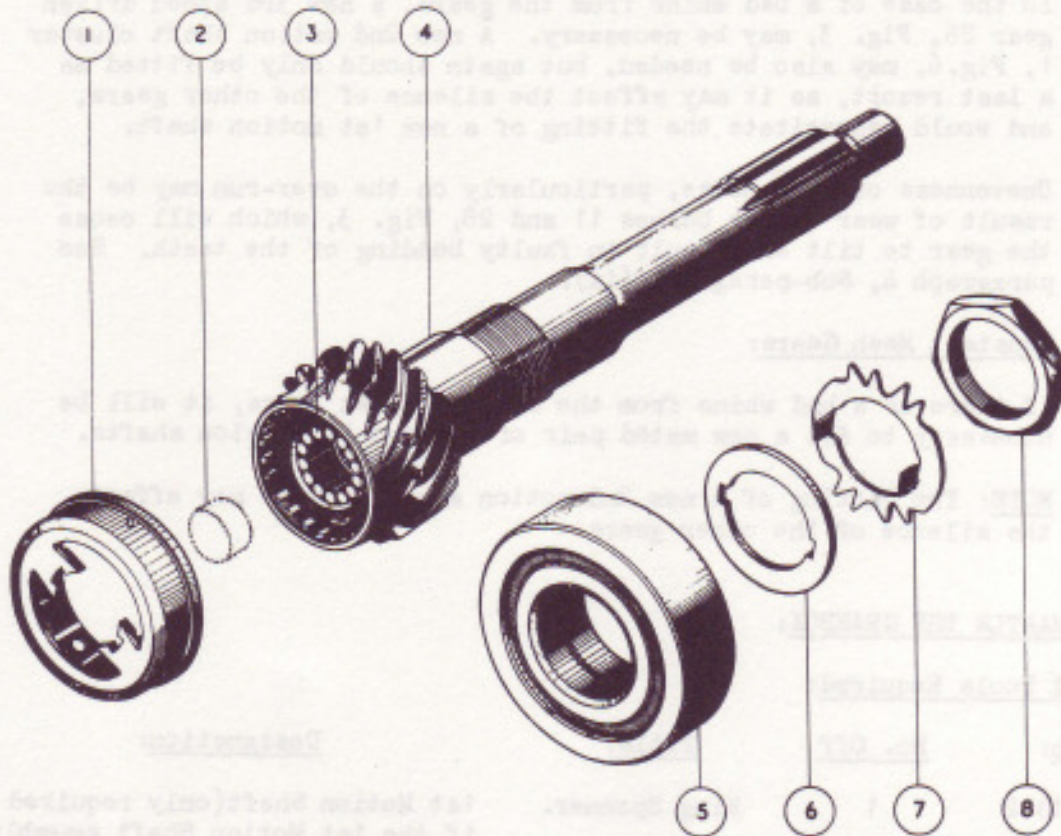

FIG. 2. EXPLODED VIEW - 1ST MOTION SHAFT.
- (v) Remove the 6 nuts securing the front end cover to the gearbox and withdraw the 1st motion shaft assembly which contains 14 rollers, (3 Fig. 2). Recover any rollers which may have fallen into the gearbox, also the Bakelite roller retainer (2). It should be noted that the function of the roller retainer is to keep the 14 rollers in position in the 1st motion shaft during assembly to the gearbox. It is pushed by the nose of the 3rd motion shaft into the 1st motion shaft where it remains and plays no further part. Remove the cone (1 Fig. 2).